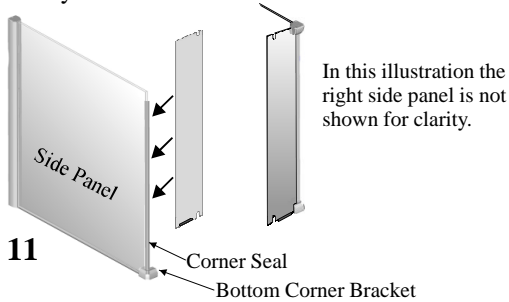

Fig 11
4.4 Insert one narrow glass panel into the corner seal and bottom corner bracket with the notches in the glass adjacent to the door opening as described in Fig.11 below and repeat for the remaining narrow glass panel on the right side corner.